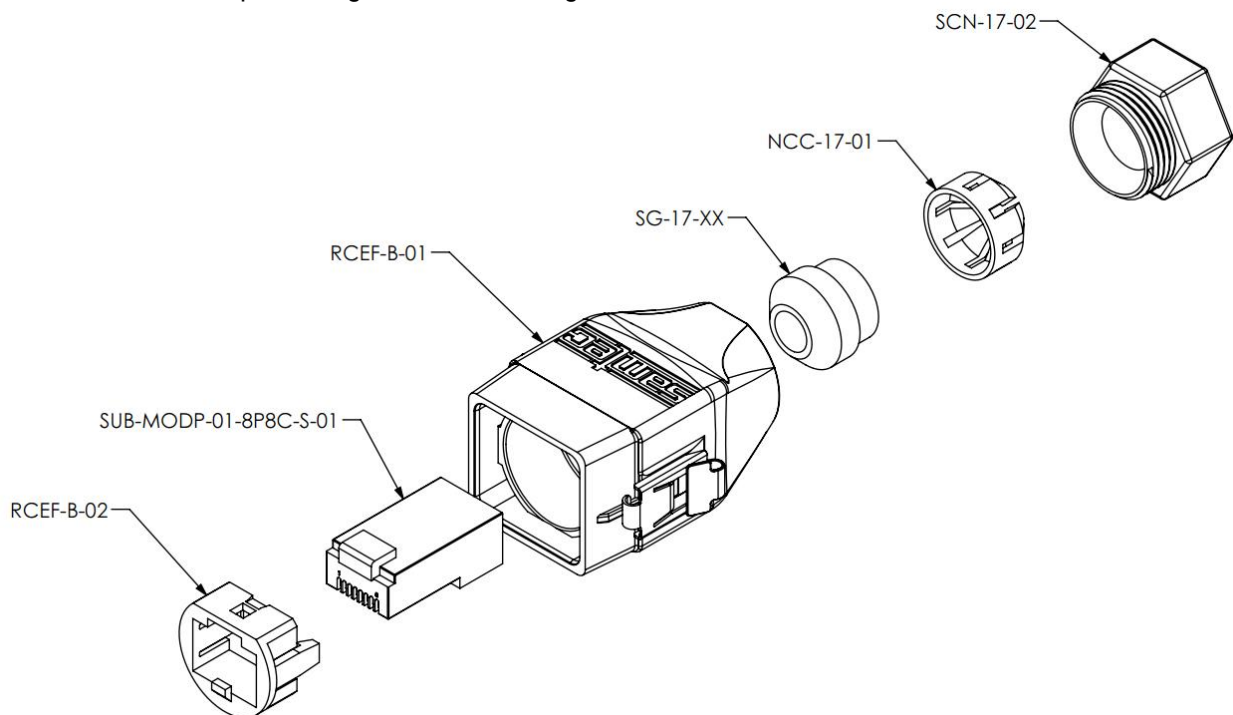

**Figure 4.1 RJ45 pinout**
- Once run and properly secured, terminate the cables with the appropriate RJ-45 connector assembly. See **Figure 4.1** for RJ-45 pinout.